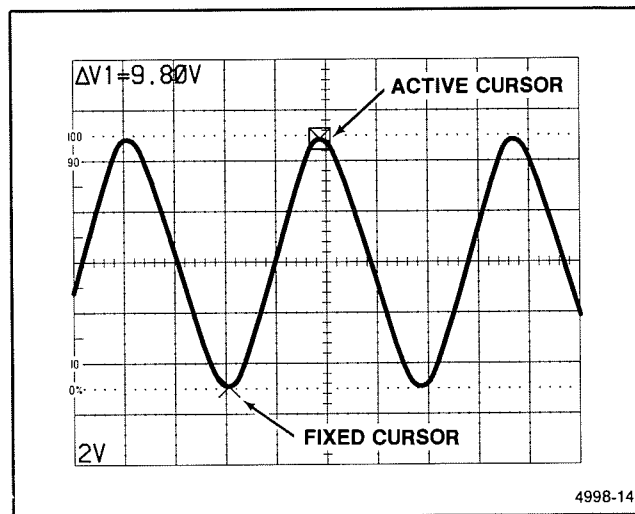

Figure 6-1. Ac peak-to-peak voltage, cursor method.
8. Push the SELECT C1/C2 button to select the other cursor, and use the CURSORS control to move the cursor to the opposite peak of the waveform (see Figure 6-1).